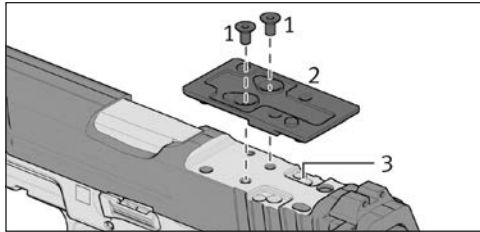

Figure 12 – Loosen screws
5. Tighten screws until the torque is reached (Figure 12).